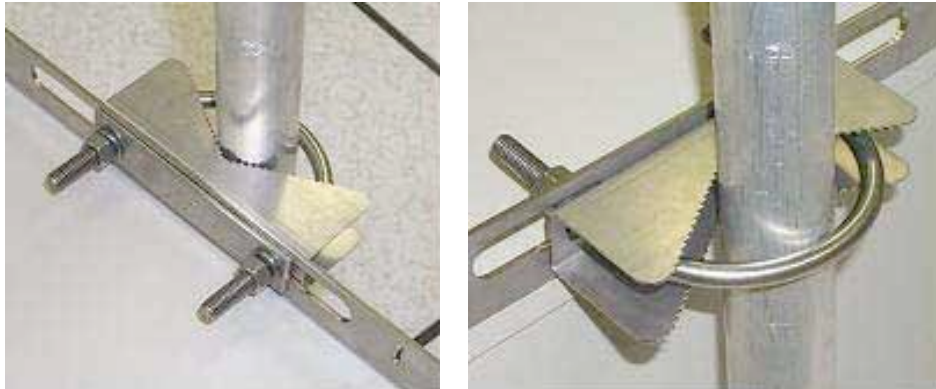

Figure 122: Detail of pole mounting
- a. attach the V-bracket to the pole as shown in Figure 122.
- d. attach the V-bracket to the pole as shown in Figure 122 on Page 336.